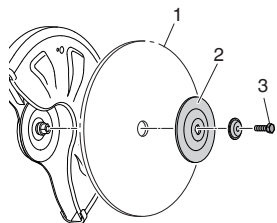

Fig. 6
1. Place the wheel (1) between the two flanges (2), and tighten the bolt (3) by hand. (Fig. 6)